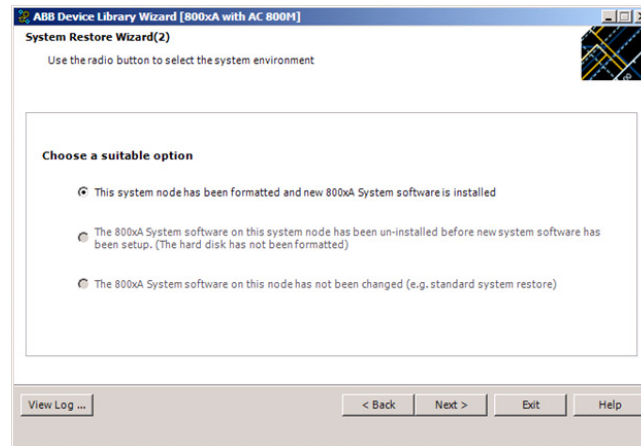

Figure 16. System Restore Wizard (2)
- Choose the first option as shown in Figure 16 and click **Next**.